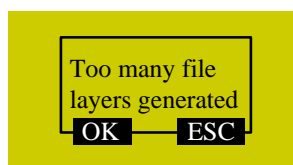

Fig. 6-6 Warning dialog when parameters not properly set
2. If the input value of “EngrDpth” is too big, the system will send the warning information “Too many file layers generated, continue?”, as shown in Fig. 6-6. You can press [ESC] to back to modify the value; or press [OK] to load the file anyway, the system staying in the page shown in Fig. 6-6. At this time, if you press a key, its function will not be executed until this dialog box disappears, so it is not allowed to press any key under this state. You can wait patiently until the file is successfully loaded, or you can power off and re-power on the system.